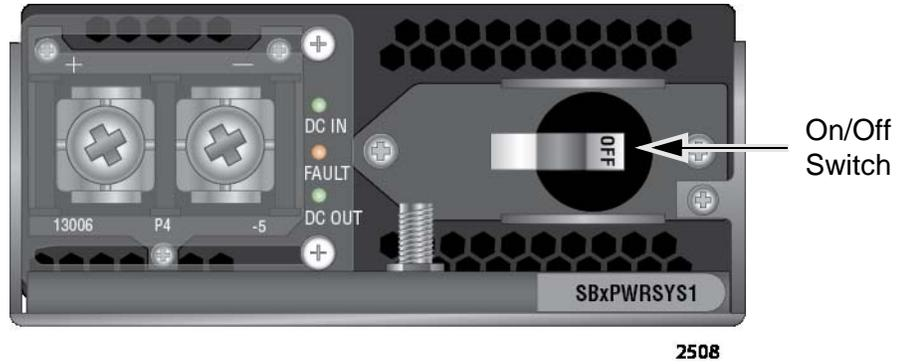

Figure 51. On/Off Switch on the SBxPWRSYS1-80 DC Power Supply
3. Verify that the On/Off switch on the power supply is in the Off position. Refer to Figure 51 on page 106.